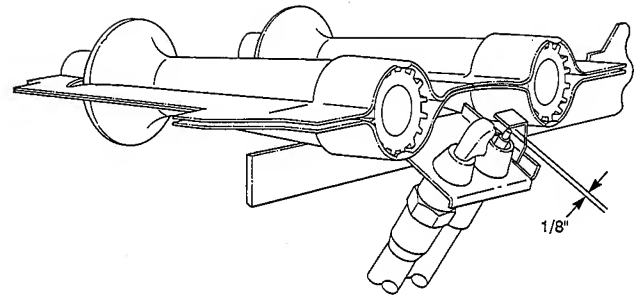

Fig. 3—Position of Pilot Assembly to Burners
9. Check position and alignment of pilot assembly to burners and ignition electrode to ignition hood. (See Fig. 3.)
19. Check furnace operation through 2 complete operating cycles. Look through vent openings in burner enclosure to check burners. Main burner flames should be clear blue, almost transparent. Pilot flame should be soft blue in color, well defined, and must provide good impingement of the ignition electrode/flame sensor. Pilot flame should extend above burner carryover port to provide proper burner ignition. (See Fig. 3, 4, and 5.)
light the burners. Remove any accumulation of soot and carbon from the flame sensor. Check spark ignition electrode gap. (See Fig. 3, 4 and 5.)